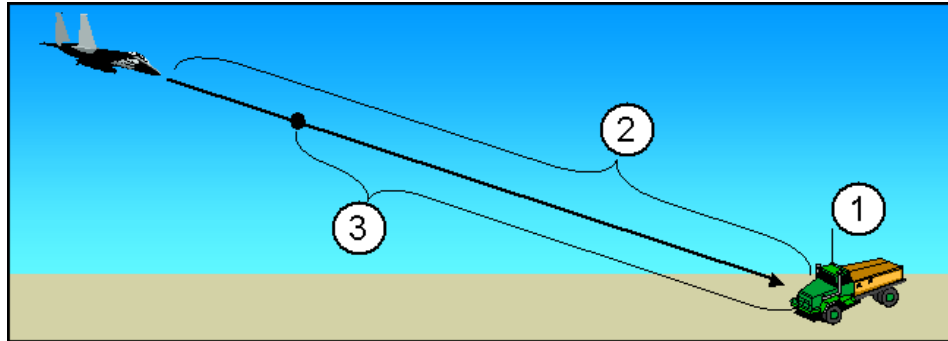

Figure 4 – Contrast (1 - inherent; 2 - apparent; 3 - threshold)
2. Contrast differences between the target/background are expressed three ways: Inherent, Apparent, and Threshold (figure 4).
- Inherent** contrast (figure 4, point 1) is measured as if you are on-scene, or right at the target/background pair.
- Apparent** contrast (figure 4, point 2) is a measurement of the contrast differences from any given distance from the target/background. The contrast difference always gets less as the sensor moves away from the target.
- Threshold** contrast (figure 4, point 3) is the minimum amount of energy difference required by a sensor. The sensor in question can be Night Vision Goggles, Forward Looking Infrared gear, an infrared guided missile, or the seeker on the front of a laser guided bomb. The threshold contrast *value* won't change for a given sensor because it is built into the design of the sensor. But **where the threshold contrast is seen by the sensor** will change based on the target/background values and weather conditions in the target-background path.